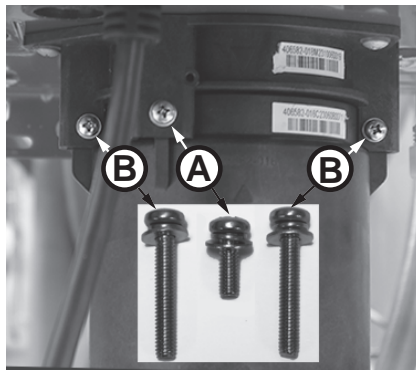

Figure 187 - Identify cartridge screws
- 6 Locate the three (3) screws securing the X3®/Bypass cartridge as shown in Figure 187. Remove the (A) M4-12mm screw and the two (B) M4-25mm screws from cartridge. Place screws aside in a safe place for reinstallation.